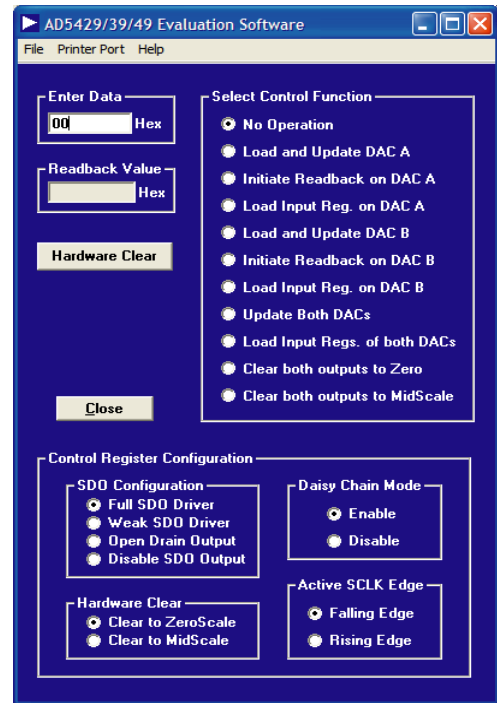

Figure 3. AD5429/39/49 Evaluation Software Dialog Box
5. Click **OK** to open the **AD5429/39/49 Evaluation Software** dialog box with drop-down **File**, **Printer Port**, and **Help** menus, as shown in Figure 3.